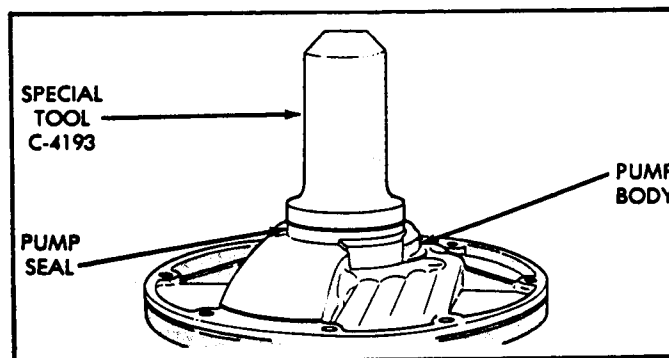

Figure 55
23. Install new front seal into pump body using seal driver, as shown in Figure 55.